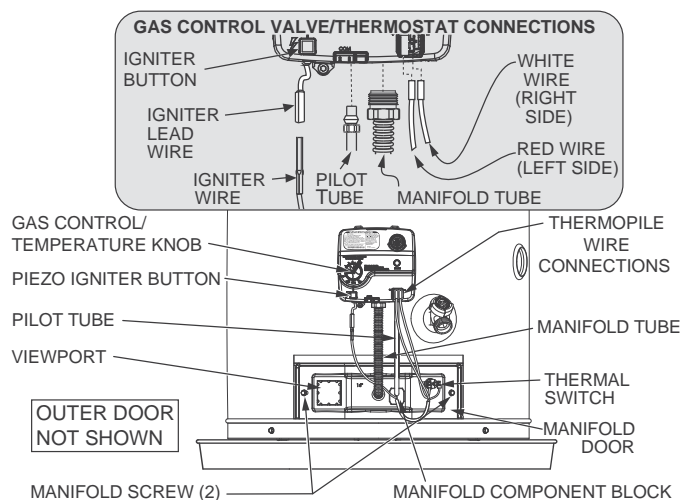

FIGURE 5.
5. Remove the two screws securing the installed manifold door assembly to the combustion chamber (Figure 5).
6. Disconnect the following from the gas control valve/thermostat: pilot tube, igniter wire, and manifold tube. See Figure 5.
7. Using needle nose pliers, disconnect the white and red thermopile wires from the gas control valve/thermostat (Figure 5).
6. Reconnect the manifold tube and pilot tube to the gas control valve/thermostat (Figure 5). Do not cross-thread or apply any thread sealant to the fittings. IMPORTANT: If you were supplied with a new ferrule nut in a parts kit, follow these steps to connect the pilot tube:
7. Connect the white and red thermopile wires to the gas control valve/thermostat. See Figure 5.